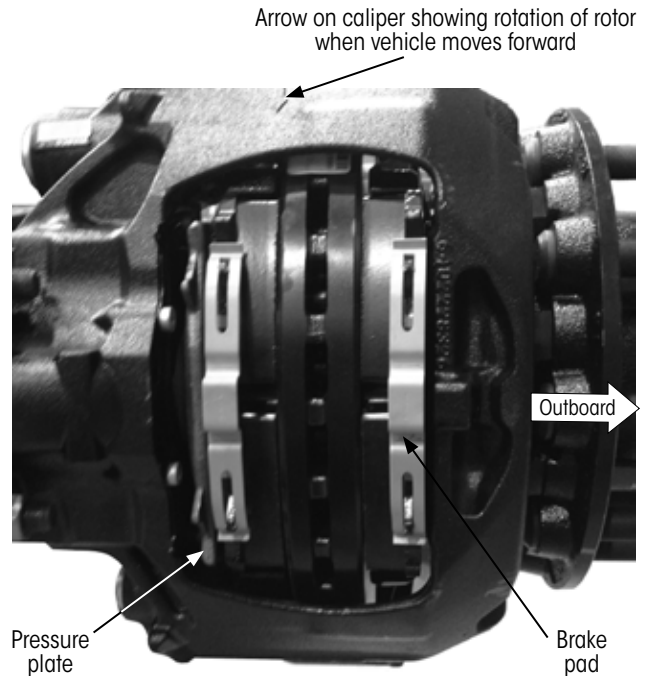

Figure 20: Removing outboard brake pad
9. **Manually push** the brake caliper outboard and remove the outboard brake pad (Figure 20).